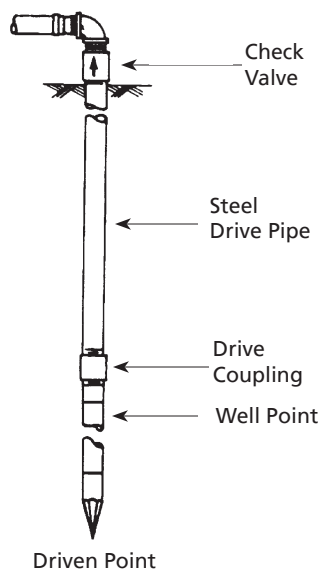
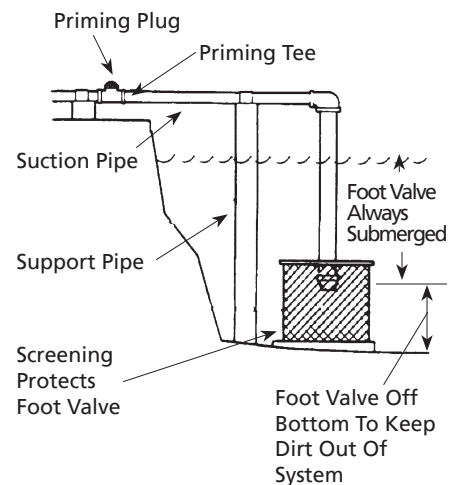

Figure 15 - Driven Point Installation
Figure 16 - Lake Installation
1. Connect the suction pipe to the drive point as illustrated in Figure 15. Keep horizontal pipe run as short as possible. Use Teflon® tape on male pipe threads.
2. Install a check valve in suction pipe (See Figure 15). Check valve flow arrow must point toward pump.
1. Protect end of suction pipe, foot valve and strainer with screening (See Figure 16).
2. To aid priming on well point installations where the horizontal piping is more than 25 feet long, install a line check valve as shown in Figure 16. Be sure check valve flow arrow points toward pump.
IMPORTANT: For long horizontal pipe runs, install a priming tee between check valve and well head as shown in Figure 16. For driven point installations, where the horizontal piping is more than 25 feet long, install a check valve as shown in Figure 15. Be sure check valve flow arrow points toward pump.